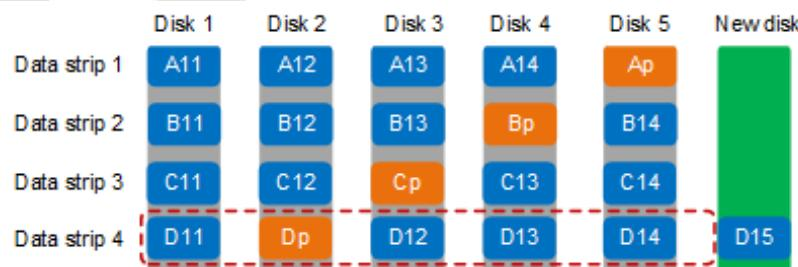

Figure 2 Recording storage
- New recording data is stored in the same data strip on all hard disks, as shown in Figure 2.